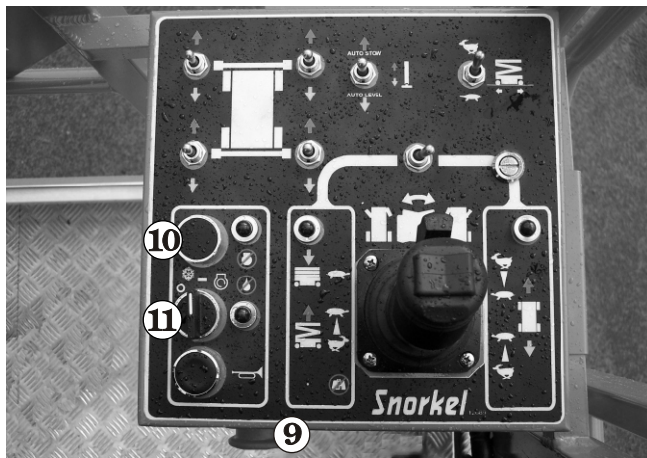

Figure 8.14
7. Turn the **Emergency Stop** switch 9 clockwise and it will pop out (on) (see Figure 8.14).
8. If the engine is cold, press and hold the **Choke** switch 10 (see Figure 8.14) during the next step.
9. Turn and hold the **Start** switch 11 clockwise (to the start position) until the engine starts or for 20 seconds, whichever comes first. When the engine starts, release both the start switch 11 and the choke switch 10 (see Figure 8.14).